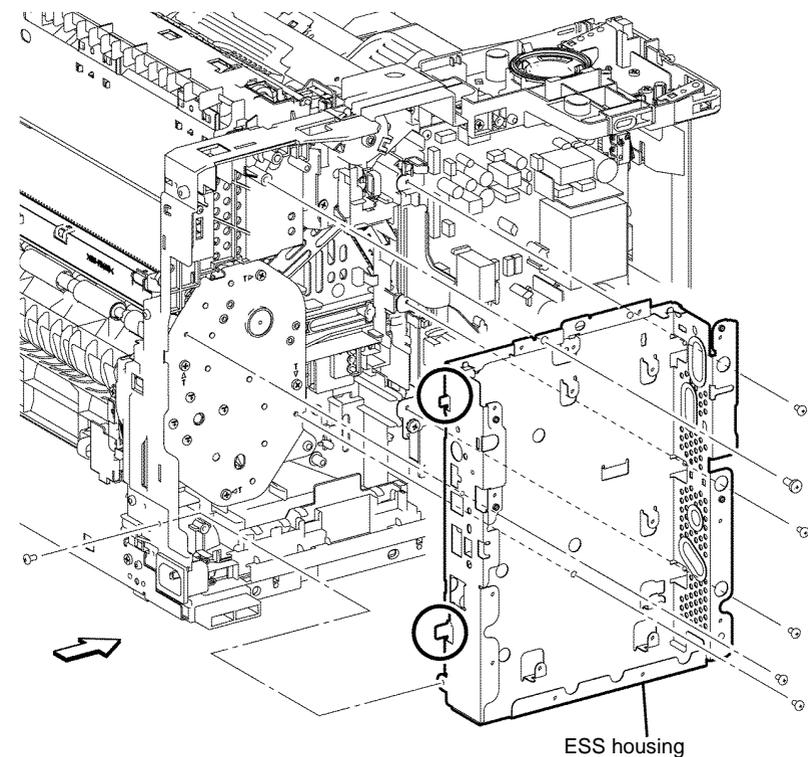

Figure 1 ESS housing removal
14. Remove six screws (silver, M3, 6mm) and one screw (silver, tapping, M4, 10mm), that fix the ESS housing. Release the two tabs from the frame, then remove the ESS housing from the printer, Figure 1.